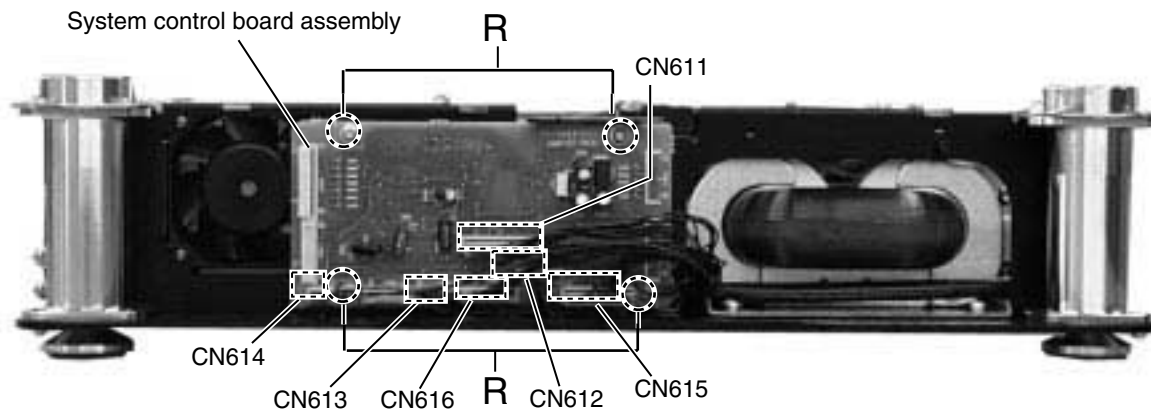

Fig.12
■ Removing the system control board assembly (See Fig. 12)